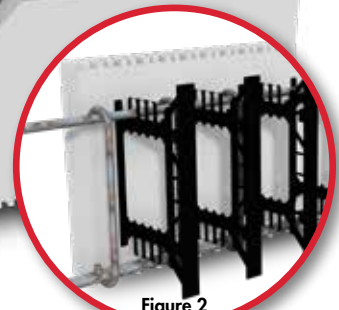

Figure 2
**FIGURE 2.** Rebar stirrups, as required by local building codes, tying the horizontal rebar together above window and door lintels. The horizontal rebar runs continuously as required by building codes and additional reinforcement as required by engineer of record or local codes.